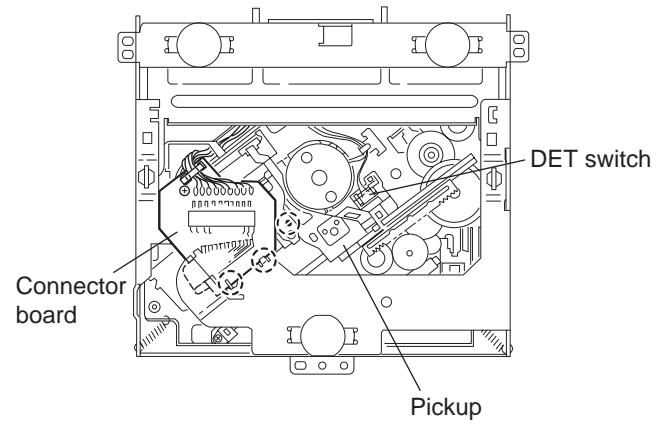

Fig.6
- (1) Remove the three screws **D**, three screws **E** and two screws **F** attaching the rear bracket on the back side of the main body.
- (2) Remove the rear bracket.
3.1.6 Removing the main board (See Fig.6)
3.2.3 Removing the DET switch (See Figs.6 and 7)